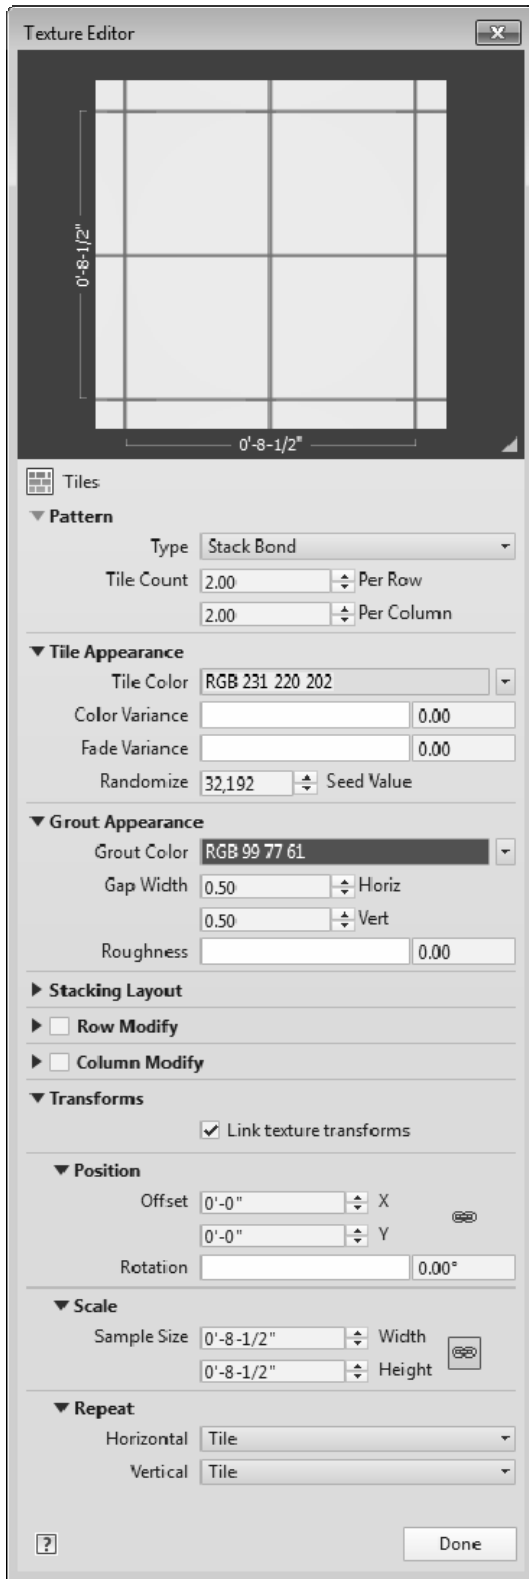

FIGURE 4-4.5 Texture editor
You are now in the *Texture Editor* shown in Figure 4-4.5. Here you can adjust all sorts of settings related to how the tile pattern should appear. One of the adjustments one can make is the tile pattern. Is the pattern stack bond, running bond, common flemish bond, etc. You can even adjust the ground color and size.
22. Make the adjustments shown in Figure 4-4.5.